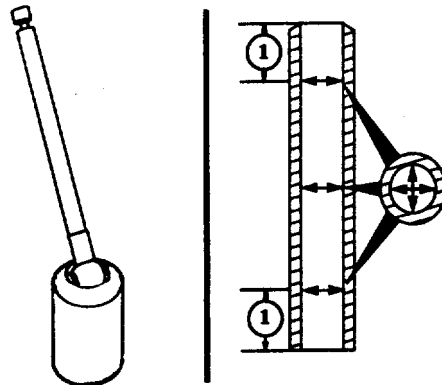

FIGURE 4-10. Valve Guide Measurement.
- (18) Use a ball gauge or dial bore indicator. Measure the inside diameter of the valve guides 0.5 inch (13 mm) from the top and bottom and in the center (FIG. 4-10). Verify inside diameter is between 0.4961 inch (12.601 mm) and 0.4987 inch (12.667 mm).